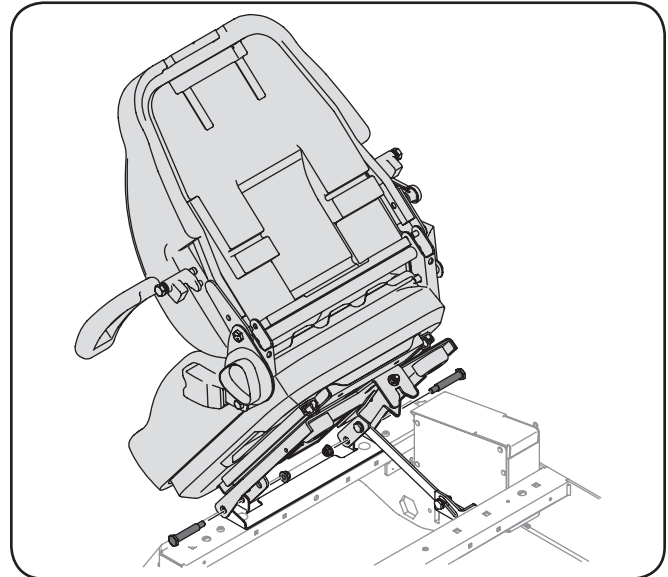

Figure 3-10
1. Remove the two flange lock nuts, washers and shoulder bolts from the seat bracket. See Figure 3-10.
2. Place the seat into position and secure the seat into place with the previously removed hardware as shown in Figure 3-10.